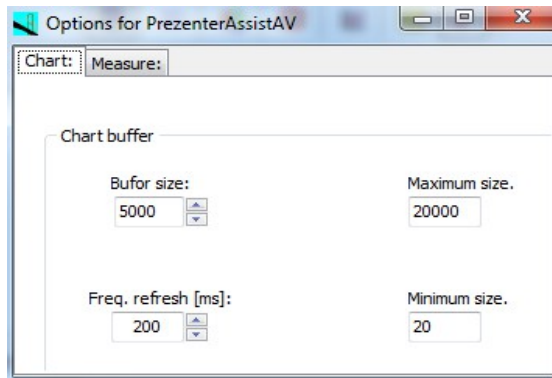

Figure 8. Chart tab- edition of chart buffer.
- the right slider (Buffer length)**– increase/decrease the range of chart (within the declared size of the data buffer – see **Figure 8**).